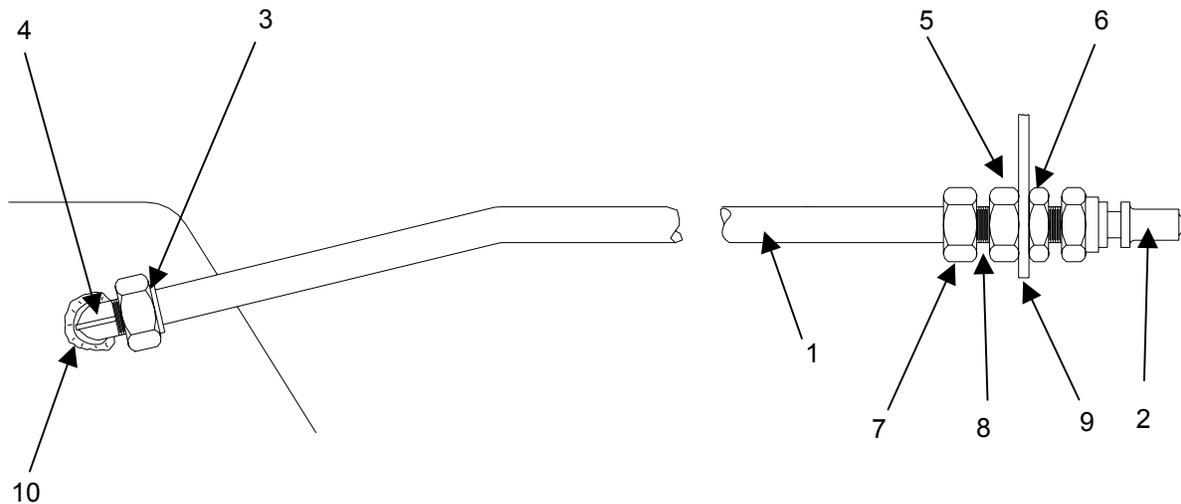

Figure 2. Replace the Fuel Line Assembly
6. Remove the union (**figure 2, item 8**) from the bracket (**figure 2, item 9**).
7. Make note of the angle at which the elbow fitting (**figure 2, item 4**) is mounted in the fuel tank port (**figure 2, item 10**).
8. Remove the $\frac{1}{2}$ -inch elbow fitting (**figure 2, item 4**) from fuel tank port (**figure 2, item 10**).
10. Apply new pipe sealer compound to new elbow fitting (**figure 2, item 4**) and screw in place on fuel tank port (**figure 2, item 10**). Make sure that elbow is installed at same angle as before removal.
11. Install new fuel line assembly (**figure 2, item 1**) into elbow fitting and hand tighten compression fitting.
12. Install the union (**figure 2, item 8**) through the bracket (**figure 2, item 9**) and hand tighten the compression fitting (**figure 2, item 7**) and the union locking nut (**figure 2, item 5**).
13. Connect the fuel line (**figure 2, item 1**) to the elbow fitting (**figure 2, item 4**) by hand tightening the compression fitting (**figure 2, item 3**).
14. Making sure that there is no stress on the fuel line (**figure 2, item 1**) tighten compression and union fittings (**figure 2, item 3, figure 2, item 5**).
15. Install fuel interface fitting (**figure 2, item 2**) as described in WP 0030 00.